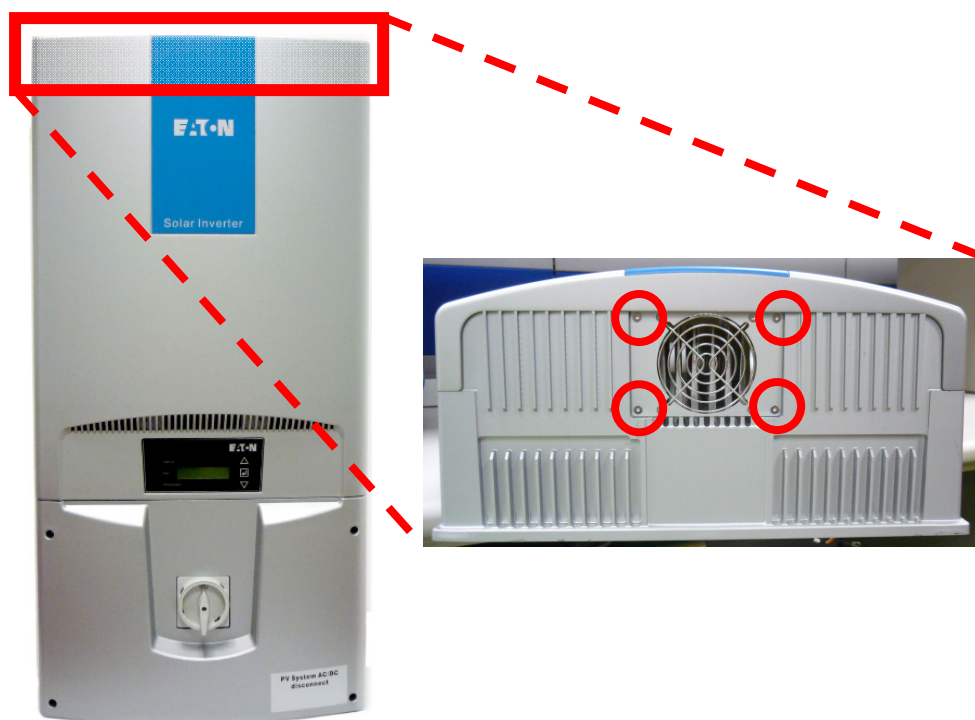

Figure 9.1.2: Screws for the external cooling fan
For PV260 and PV270 models, there is an external cooling fan and the internal cooling fan designed within PV inverter for the thermal management. The external fan is located on the top-front side of PV Inverter as shown in figure 9.1.2. When the cooling fan is not working properly, user will be able retrieved three different kinds of failure messages from the LCD. **“FAN Lock”** is the first failure message that user can retrieved from the LCD when both external and internal cooling fan are not working properly. **“FAN1 Lock”** is the second kind of failure message the user can be retrieved from the LCD when the internal cooling fan is not worked properly. **“FAN2 Lock”** is the last kind of failure message the user can be retrieved from then LCD when the external cooling fan is not worked properly.
- B) Unfastening all screws located in each corner as highlighted in figure 9.1.2. After the screws are removed, lift out the top cover of the cooling fan from PV Inverter as indicated the figure below: